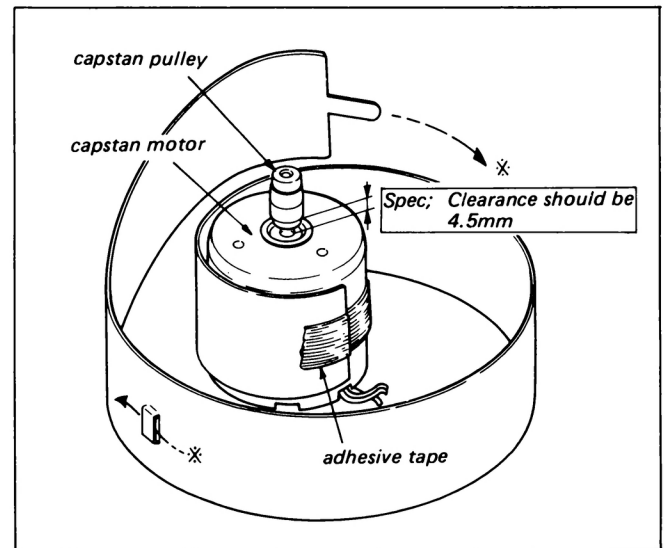

Fig. 5-5. Replacement of capstan DC motor
2. Remove the capstan pulley from the defective motor and attach it to the new motor as shown in the Fig. 5-5.